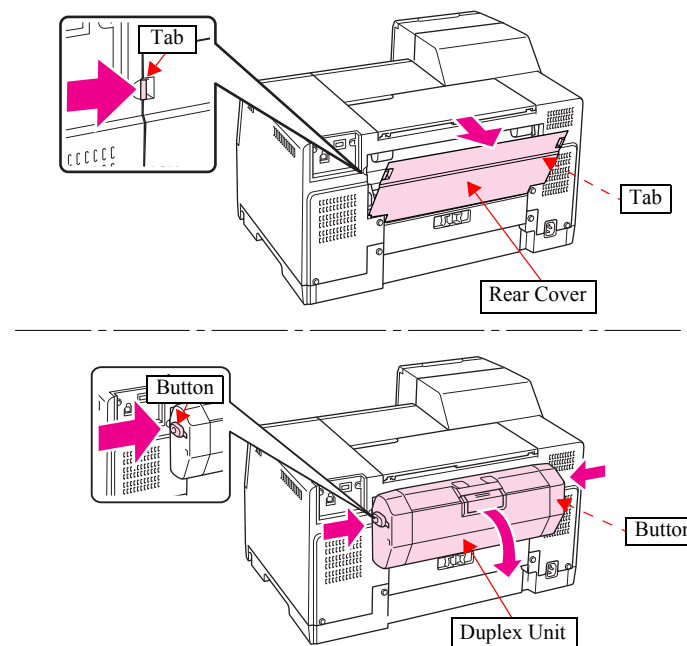

Figure 4-23. Removing the Rear Cover / Duplex Unit
1. Push in the tab on both sides of the Rear Cover to release the lock, and remove the Rear Cover. See Figure 4-23.
1. Push in the button on both sides of the Duplex Unit to release the lock, and remove the Duplex Unit. See Figure 4-23.